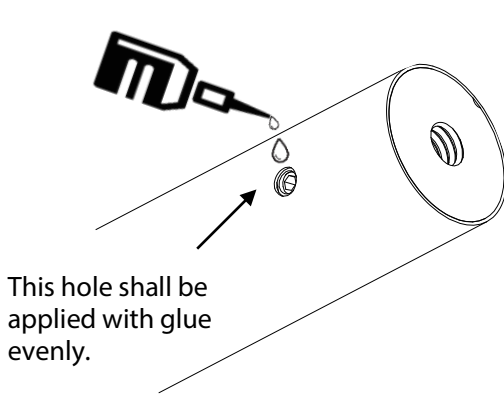

Figure 2-2
1. Using the glue and applying in the hole of the arms as well as the one countersunk screw, as shown in Figure 2-2. (This is to prevent screws from getting loose due to vibration after being used for a long time.)